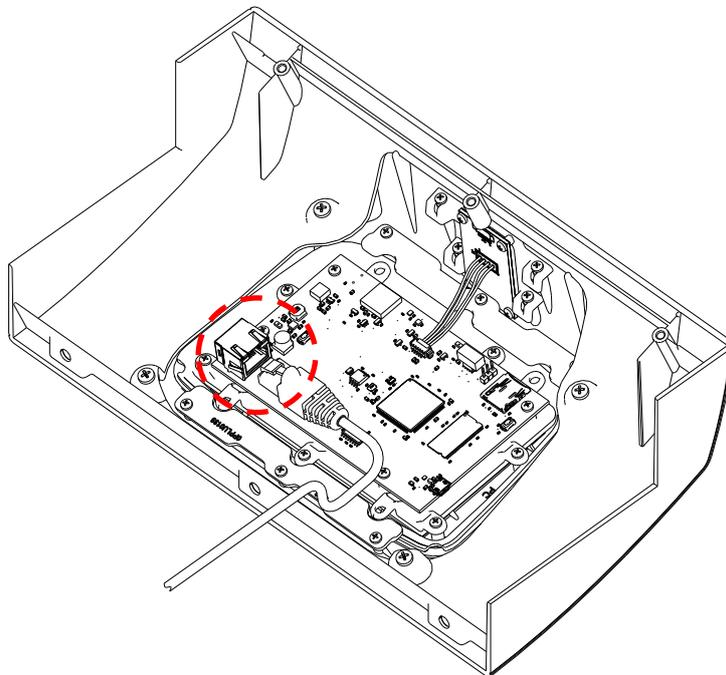

Figure 15 – Display rear view
- 2) Remove the two retaining screws of the metallic support placed under the display (Figure 15).